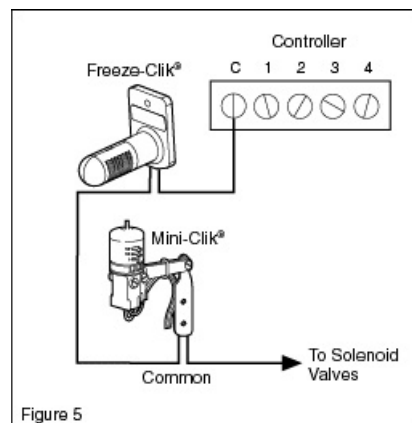

Figure 5
If a Mini-Clik® Rain Sensor is already installed or is to be part of the installation (see Figure 5), the Freeze Sensor is to be wired in series with the Rain Sensor so that either (or both) devices can control the circuit.
- [5] http://www.hunterindustries.com/sites/default/files/ts_freezeclik_fig5.gif